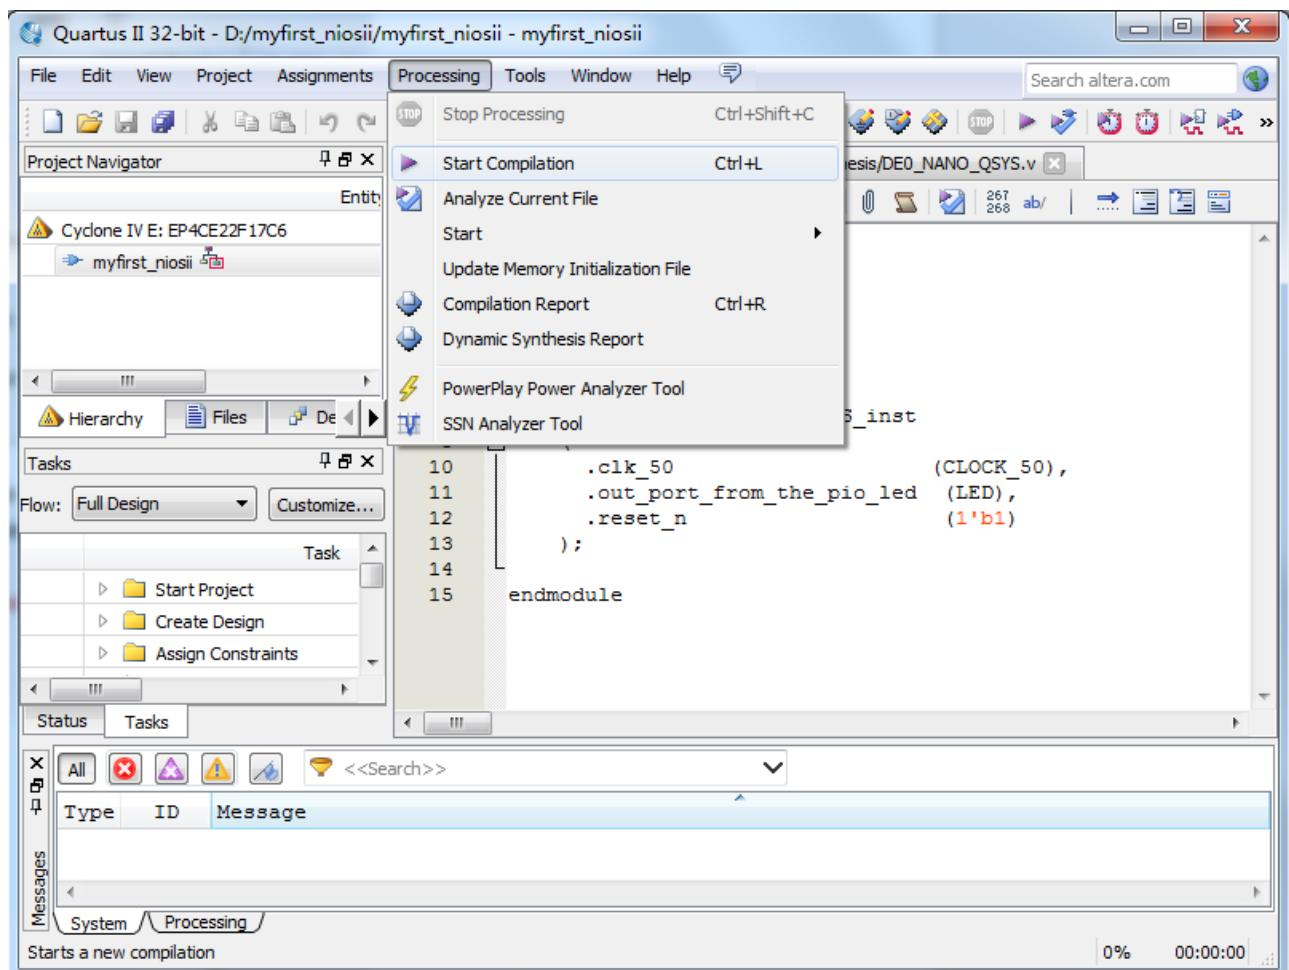
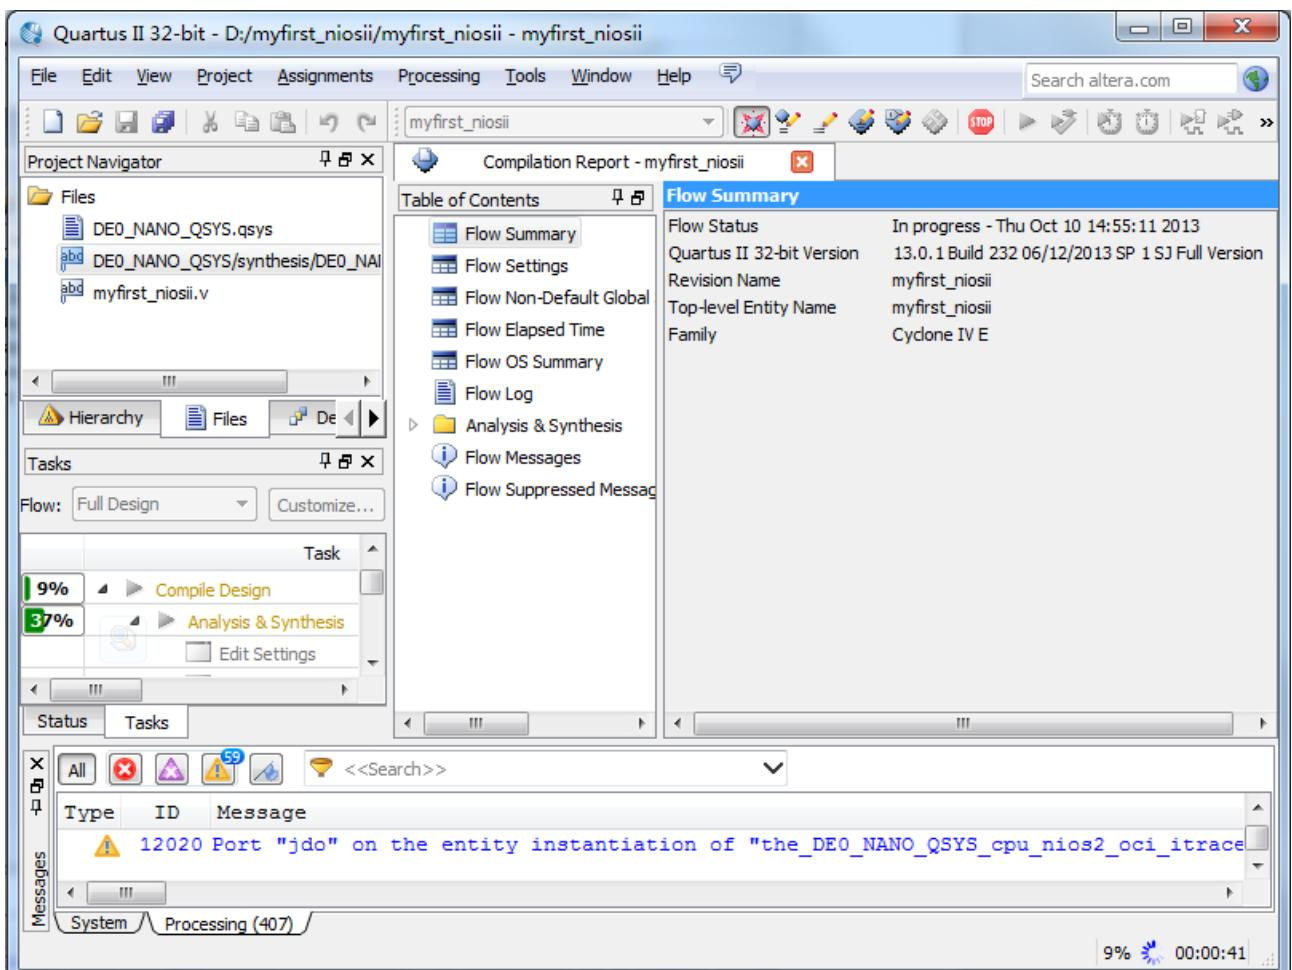

Figure 1-62 Start Compilation
Figure 1-63 Execute Compilation
37. Choose Processing > Start Compilation as shown in Figure 1-62. Figure 1-63 shows the compilation process.